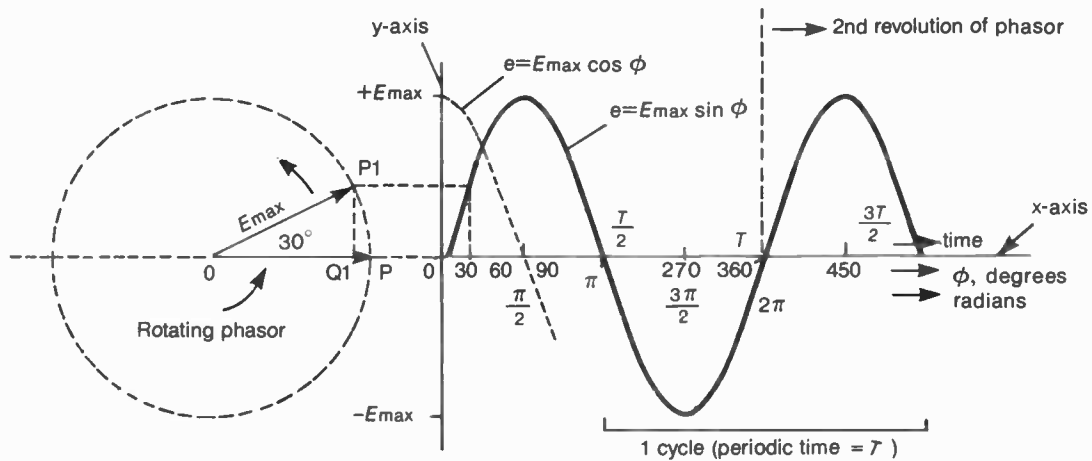

Fig. S5 The Sine Waveform
**SINE WAVE** This is a waveform conforming to  $i = I_{\max} \sin \phi$  or  $i = I_{\max} \cos \phi$  ( $e$  and  $E_{\max}$  can be substituted for  $i$  and  $I_{\max}$ ), where  $\phi$  is the angle through which the wave has moved from a given starting point. A cosine curve is identical in shape to that of a sine wave but has a value of 1 at  $\phi = 0$  whereas the sine has a value of 0. An example which also shows how a sine wave is generated by a rotating phasor, is shown in Figure S5. The x-axis can be labelled in one of several different ways as shown.
A feature which is useful in deriving formulae for reactance is as follows. In Figure S5 it is evident that the distance  $P$  moves during one cycle is  $2\pi$  times the length of  $OP$ , hence the *rate* at which  $P$  moves is  $2\pi \times f$  times the length of  $OP$ , where  $f$  is the frequency in hertz. Since  $OP$  represents  $E_{\max}$  or  $E$  then, for a sine wave:
**SINUSOIDAL** describes a curve which has the form of a sine wave. It therefore describes any voltage or current which has a graphical representation which is a sine function as in Figure S5. A sinusoidal voltage (or current) waveform can therefore be represented by the expression: